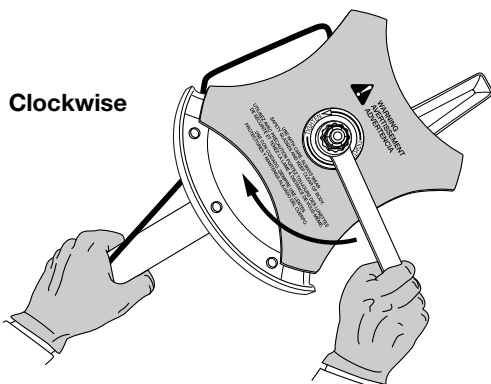

Fig. 15
2. Hold the locking rod in place by grasping it next to the boom of the unit (Fig. 15).
3. While holding the locking rod, loosen the nut on the blade by turning it clockwise with a 13 mm closed-end or socket wrench (Fig. 15).